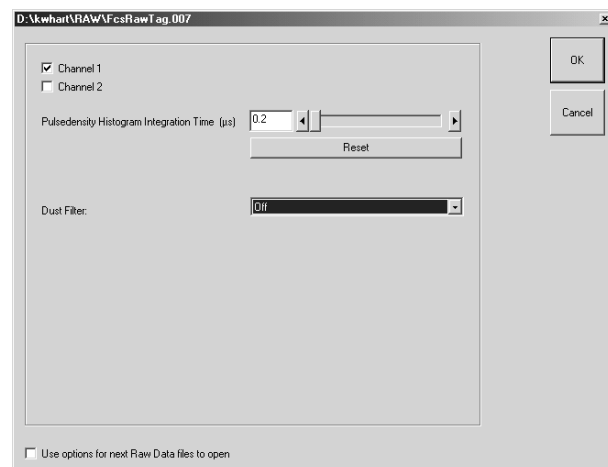

Fig. 3-97 The Options menu for loading raw data files with dust filter inactivated
- ConfoCor2 raw data files: Each file will be opened in a different **Data evaluation** window. If you open a raw data file the **Options** menu for loading raw data files will appear (see Fig. 3-97). You have several options to open raw data files.
- Selection of **Off** (see Fig. 3-97) will inactivate the dust filter.